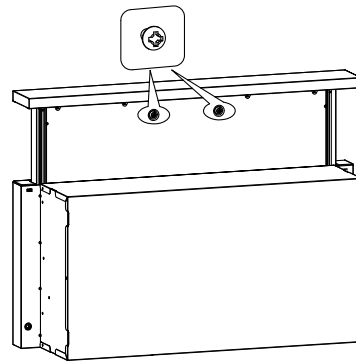

Fig 2
- Unscrew the two screws bottom of the plate (fig 2).